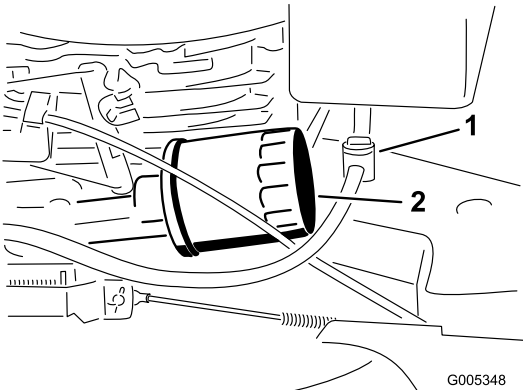

Figure 27
6. Place a rag under the oil filter to catch any oil that may leak out as you remove the filter (Figure 27).
3. Close the fuel valve (Figure 27).